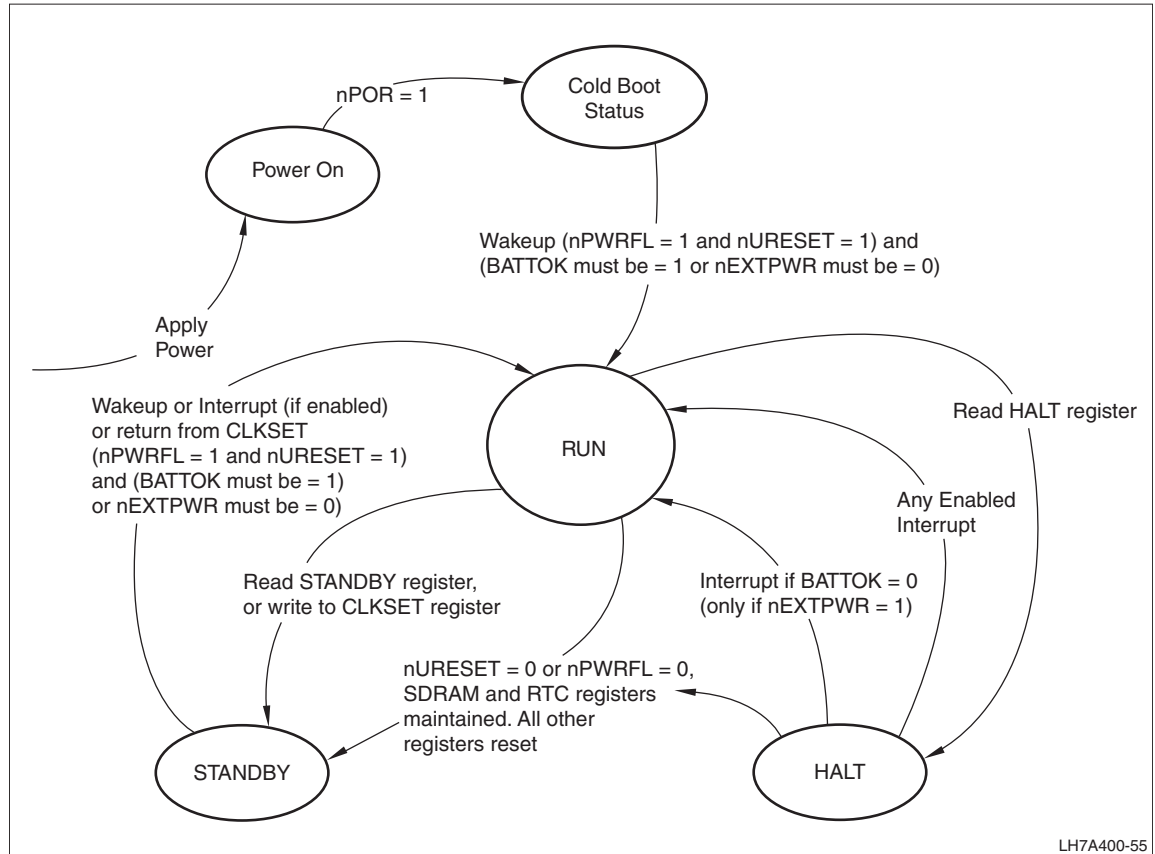

Figure 6-3. State Transition Diagram
The LH7A400 has three operating states: Run, Halt, and Standby. These are used to reduce power consumption. In Halt, some clocks and peripherals are disabled, reducing power from the Run state. In Standby, only the 32.768 kHz clock and state controller are operational, resulting in the minimum power consumption possible. The operational states and state transitions are shown in Figure 6-3. In the figure 'Cold Boot Status' is a short-term Standby state.
- From Standby, Run is entered in response to a rising edge on WAKEUP (pin D4). Because power-on reset disables interrupts, this signal is the only way to enter Run from Standby after power-on reset. This condition is the 'Cold Boot Status' in Figure 6-3.